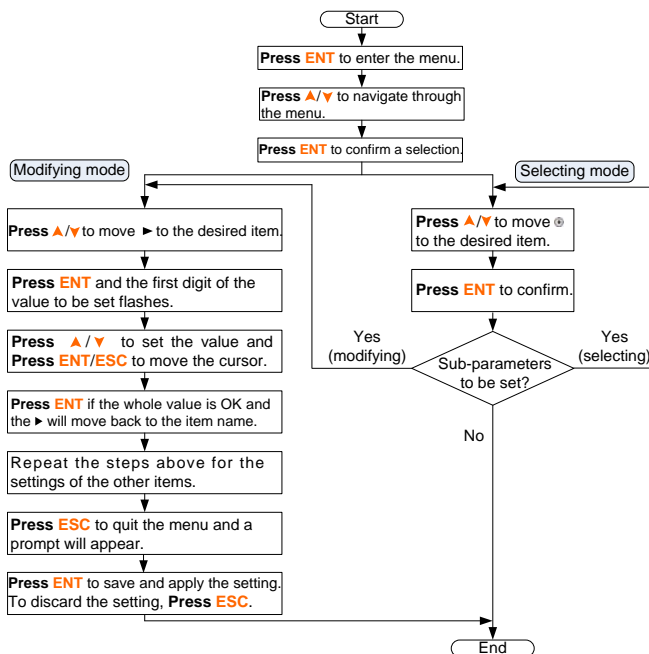
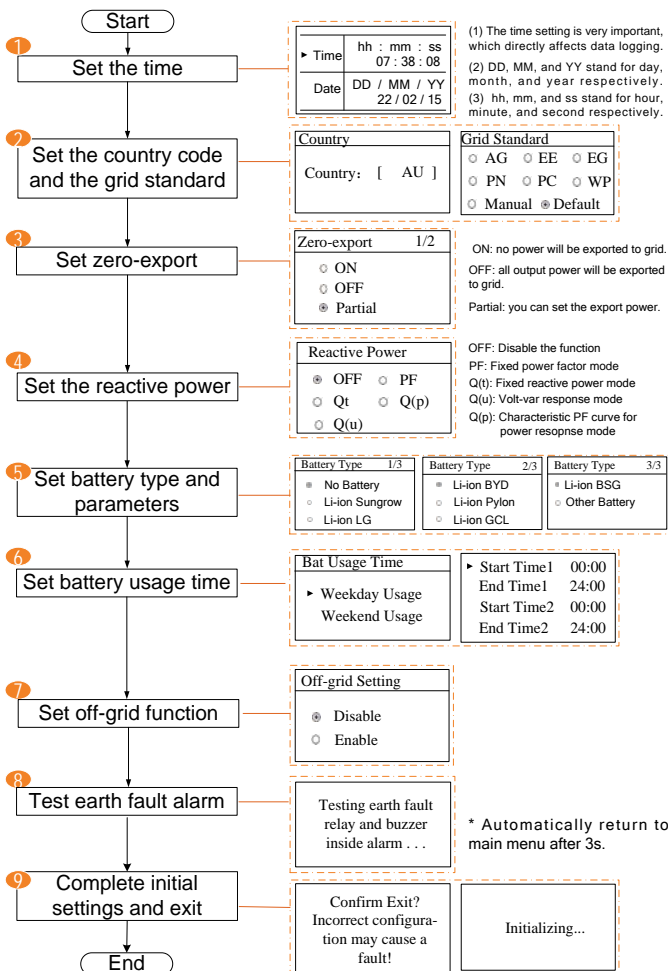

Fig. 7-1 Button Operations
Fig. 7-2 Procedure for Initial Settings
6. Refer to **Fig. 7-1** for button operations and complete all initial settings according to the procedure in **Fig. 7-2**.